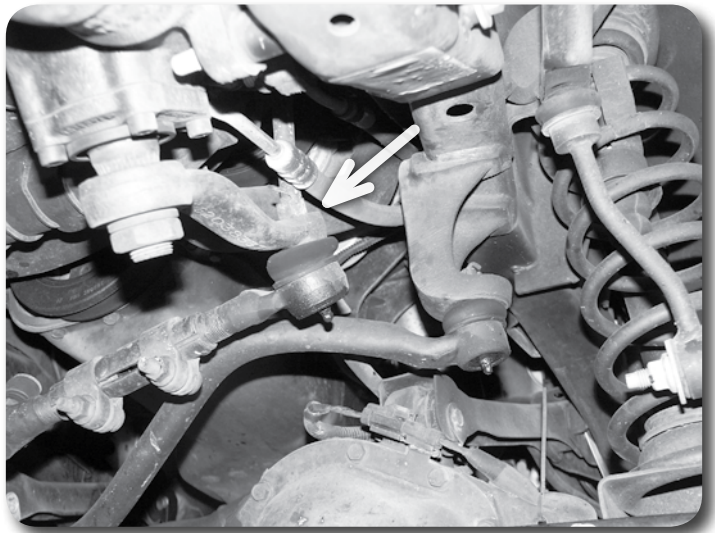

Figure 5
11. Remove the cotter pin and castellated nut from the drag link end at the pitman arm **Figure 5**. Thread the nut back on a couple of turns. Strike the pitman arm near the drag link end to release the tapered seat. Take care not to damage the end. Remove the nut and the drag link from the pitman arm. Save hardware.